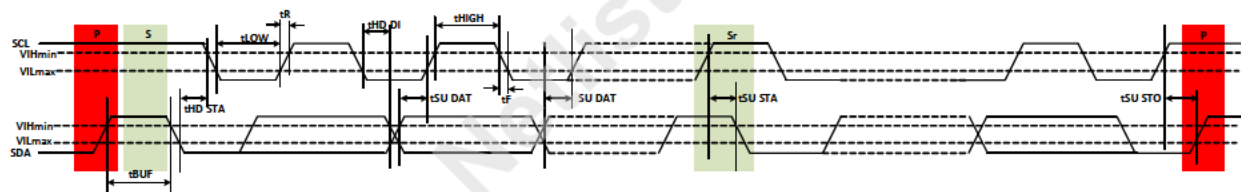
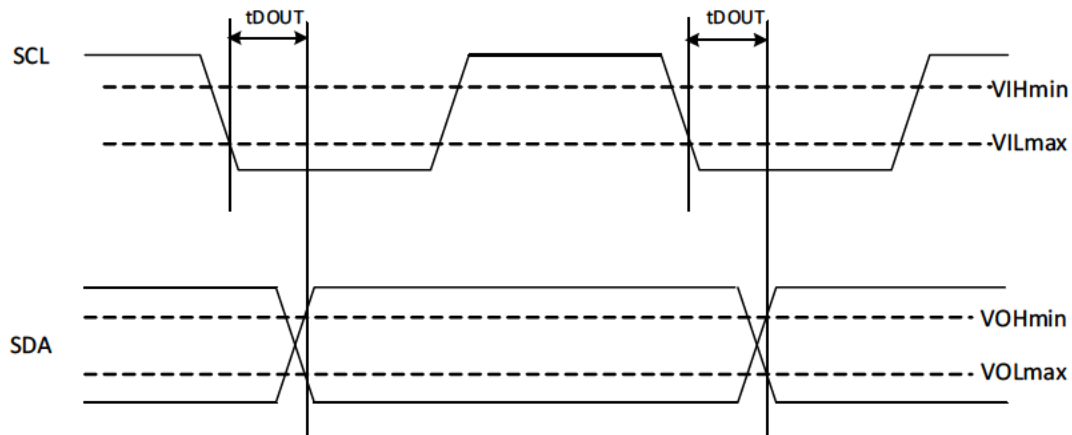
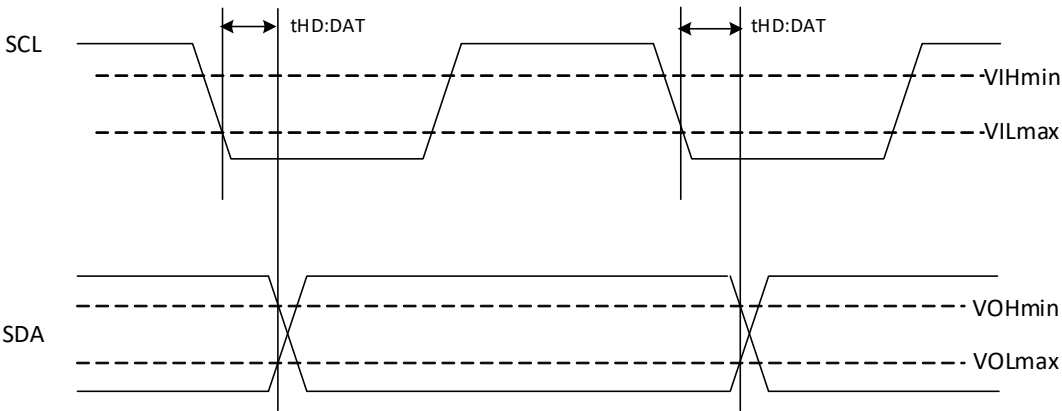

Figure 1 — I²C or I²C Basic Bus AC Input Timing Parameter Definition
Figure 2 — I²C Basic Bus AC Data Output Timing Parameter Definition
Figure 3 — I²C Bus AC Data Output Timing Parameter Definition
2. See Figure 1 for PMIC's input timing definition.
4. The input setup time is referenced from SDA VIL or VIH threshold as shown in Figure 1 to SCL VIH threshold as shown in Figure 1. The input hold time is referenced from SCL VIL threshold as shown in Figure 1 to SDA VIL or VIH threshold as shown in Figure 1.
6. The PMIC device guarantees t_{HD_DAT} value in I²C mode of operation. See Figure 3 for PMIC's output timing definitions as well as SCL clock input threshold level and SDA data output threshold levels.
7. The PMIC device must be configured in I²C Basic mode to guarantee t_{DOUT} or t_{DOFFS} or t_{DOFFM} value. See Figure 2 for PMIC's output timing definition as well as SCL clock input threshold level and SDA data output threshold levels.
The PMIC device follow the I²C or I²C Basic bus timing requirements. Figure 1, Figure 2 and Figure 3 show the timing diagram for Data bus Input and Data Output parameters.